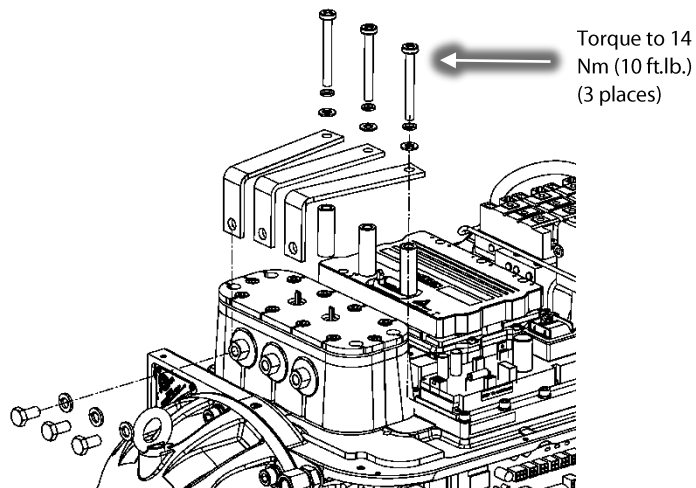

Figure 14 – Motor Bus Bar Removal
23. Remove the Motor Bus Bars from the Inverter and the high-power feed throughs of the motor. Refer to Figure 14 (Motor Bus Bar Removal).